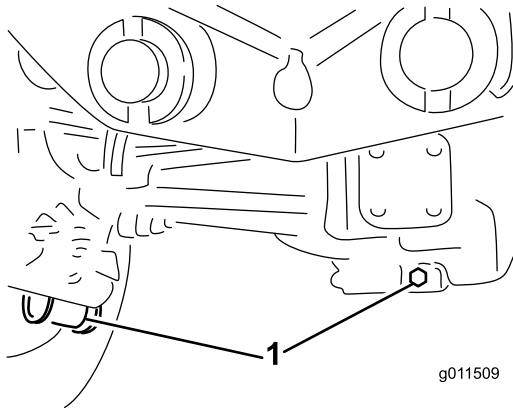

Figure 60
2. Clean the area around the 3 drain plugs; 1 on each end and 1 in the center (Figure 60).